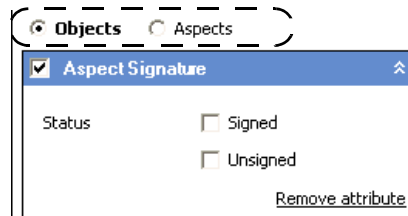

Figure 99. Objects/Aspects
3. Select **Objects** or **Aspects** depending on search, see Figure 99. If you select **Objects** you will find all objects which have signed/unsigned aspects. If you want to make a search for signed/unsigned aspects of a certain object, you must type the name of the object in the **Name** text field. If you select **Aspects** you will find all signed/unsigned aspects.